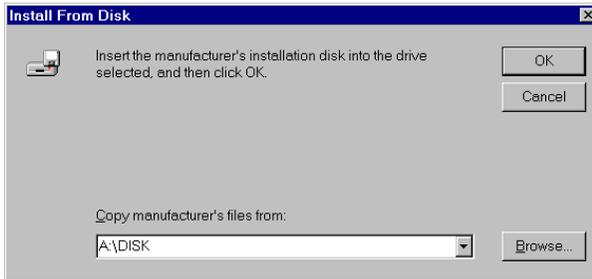

Figure 3-14. Change Path to A:\DISK
17. From the Install From Disk box, change the path to A:\DISK as shown in Figure 3-14 and click OK.